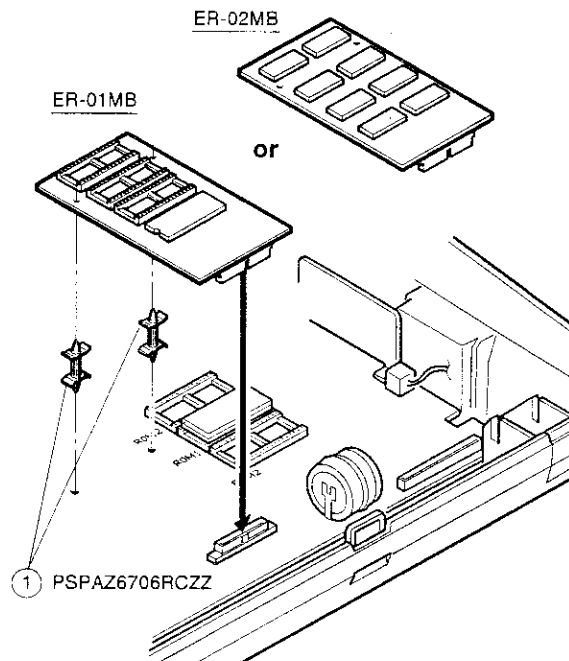

Fig. 4
② ER-01MB and ER-02MB
- 2) Mount the spacer ① on the main PWB unit and place the ER-01MB or ER-02MB expansion RAM board on the RAM connector and the spacer. (Fig. 4)